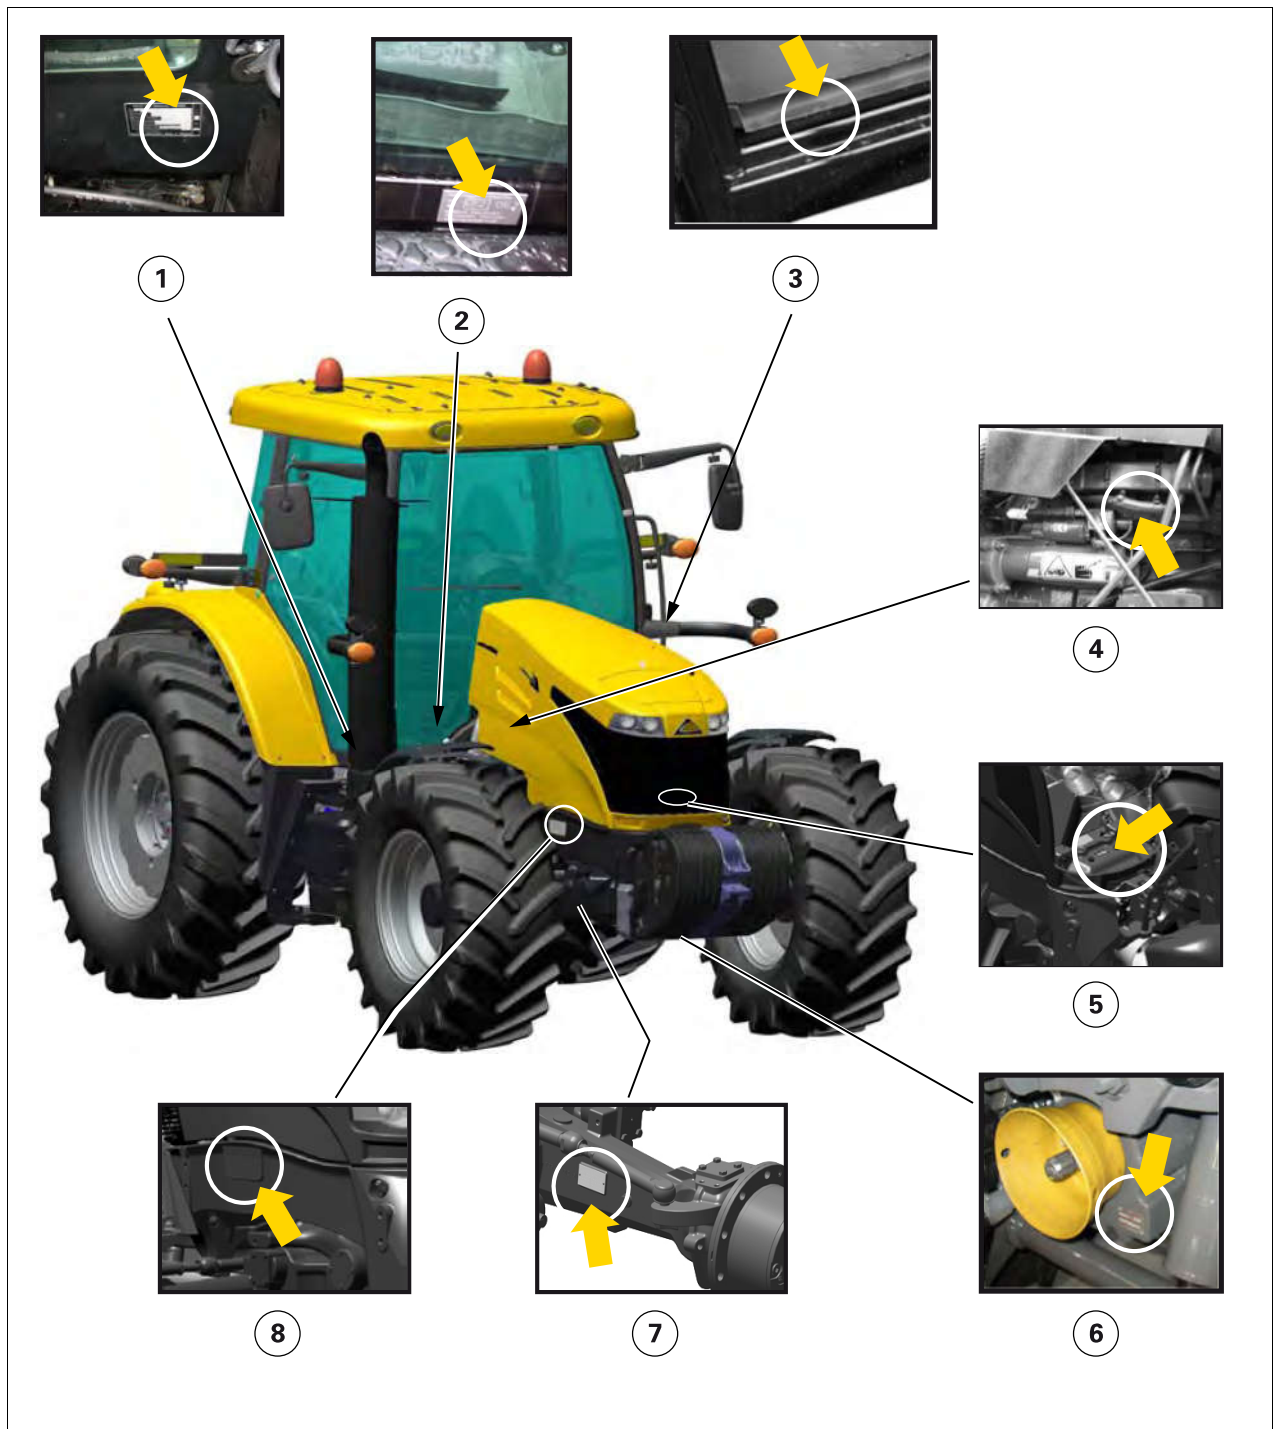

Fig. 1.
<ul style="list-style-type: none"> - 4296959M1 ((P) fig. 1) - <p>WARNING: Risk of being crushed under tractor in the event of a rollover. Keep seat belt fastened snugly when operating, do not jump if tractor starts to tip.</p>
<ul style="list-style-type: none"> - 4296968M1 ((C) fig. 1) - WARNING: Burn hazard – hot surfaces. Keep away from hot engine components when engine has been running. Shut off engine, remove key, and wait for system to cool before performing maintenance or repair work.
<ul style="list-style-type: none"> - 4296970M1 ((M) fig. 1) - WARNING: Crushing hazard between tractor and implement. Stand outside of tractor tire when using external controls for 3-point hitch. Do not stand between tractor and implement.
<ul style="list-style-type: none"> - 4296972M1 ((B) fig. 1) - WARNING: Shearing hazard – engine fan. Keep your hands away from the fan and the belts when the engine is running. Shut off engine and remove key before performing maintenance or repair work.
<ul style="list-style-type: none"> - 4296976M1 ((K) fig. 1) - DANGER: Rear overturn hazard, which may result in personal injury or death. Pull only from approved drawbar or bottom links of 3-point hitch at horizontal position or below. Never pull from above rear axle centerline.